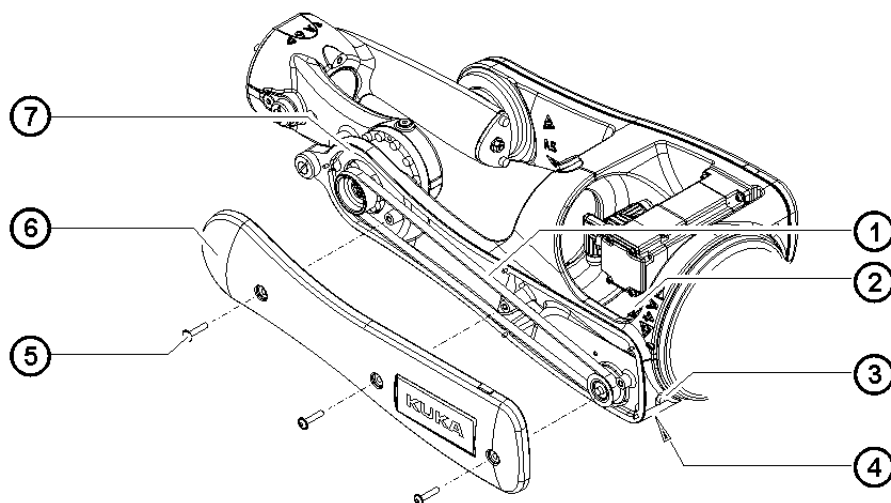

Fig. 11-29: Removal, installation of toothed belt for axis 5
1. Remove 3 fillister head screws (>>> Fig. 11-29) and take off cover and seal.